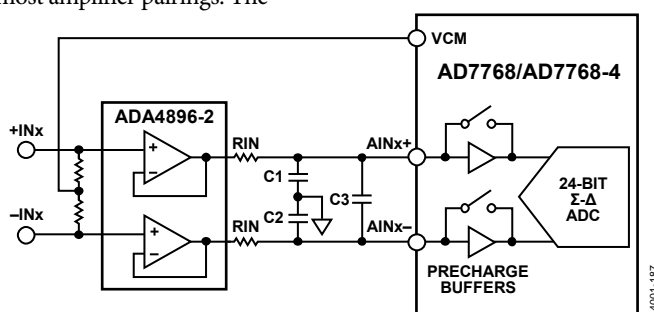

Figure 87. Typical Input Structure for an RC Network
Full settling of the analog inputs to the ADC requires the use of an external amplifier. Pair amplifiers such as the ADA4805-2 for low power mode, the ADA4807-2 or ADA4940-1/ADA4940-2 for median mode, and the ADA4807-2 or ADA4896-2 for fast mode with the AD7768/AD7768-4 (see Figure 87 for details). Running the AD7768/AD7768-4 in median and low power modes or reducing the MCLK rate reduces the load and speed requirements of the amplifier; therefore, lower power amplifiers can be paired with the analog inputs to achieve the optimum signal chain efficiency.
There is a resistor/capacitor (RC) network between the amplifier output and the ADC input. Figure 87 shows a typical RC network used for the AD7768/AD7768-4 for most amplifier pairings. The